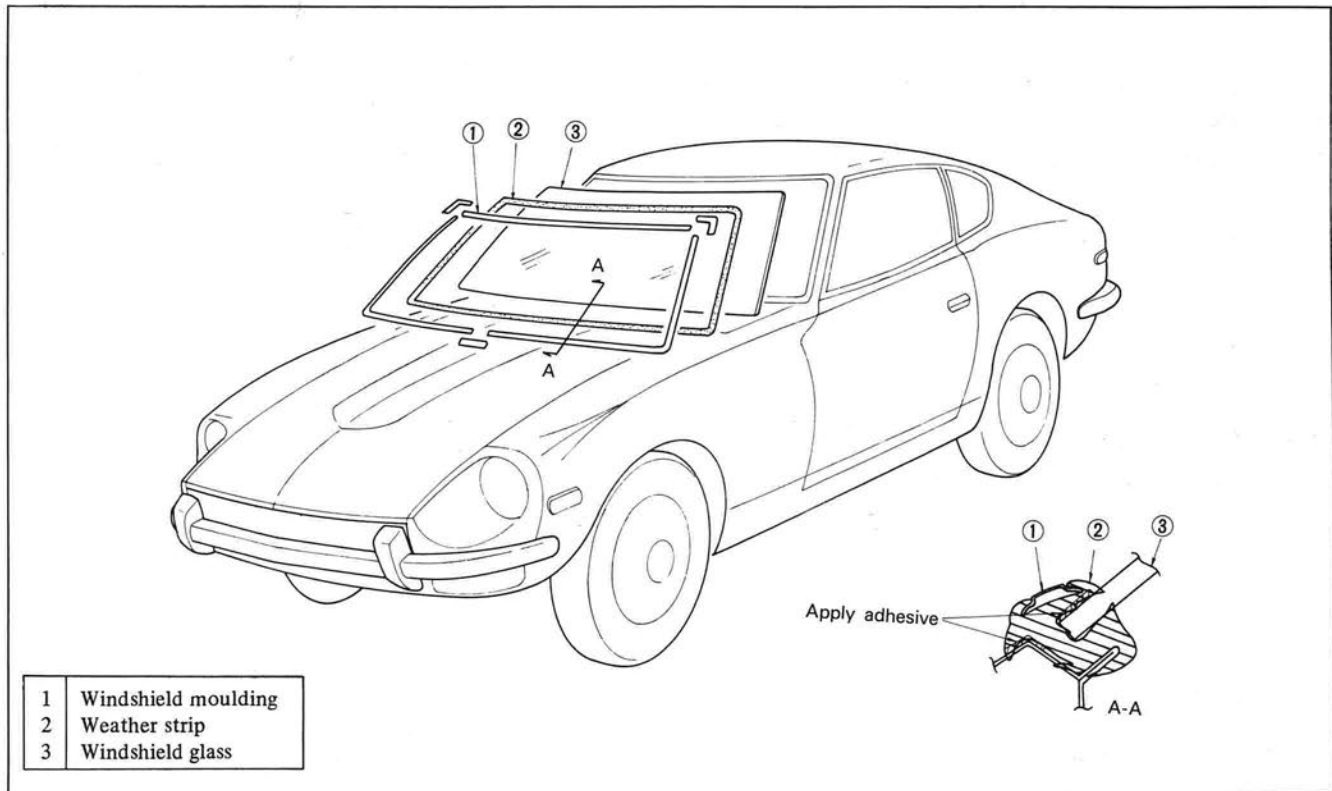

Fig. BF-13 Front windshield glass
2. Apply adhesive to the appropriate portions on the weather strip as shown in Figure BF-13, and apply the weather strip to the windshield glass.